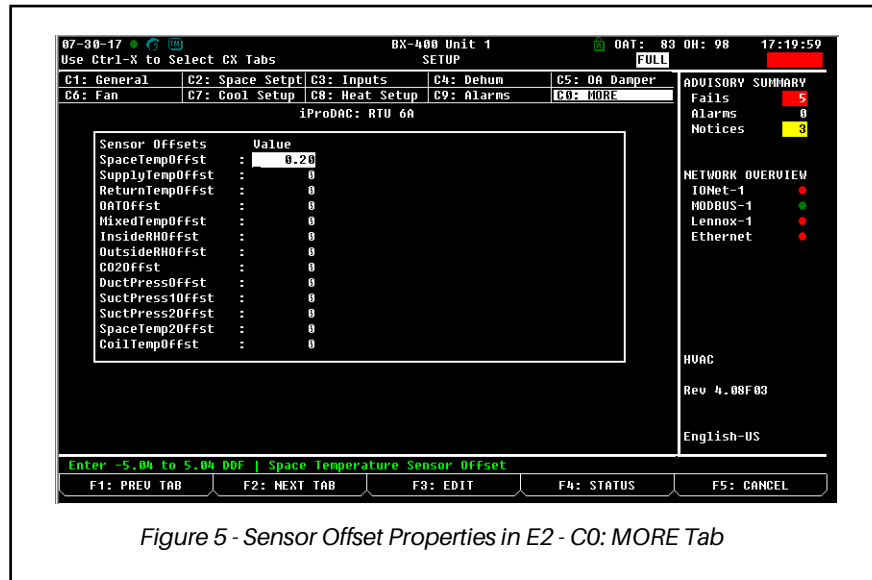

Figure 5 - Sensor Offset Properties in E2 - C0: MORE Tab
4. Press **Ctrl + 0** and select **F Sensor Offsets** or press **F2** to access the **C0: MORE** tab and scroll through the tabs to access **Sensor Offsets** (Figure 5):
5. Enter the appropriate offset values (Figure 5):